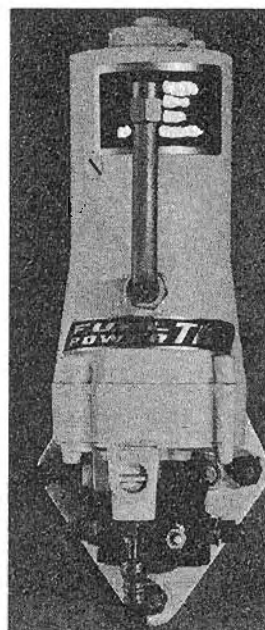

Figure 2. High Pressure Pump
- b. High Pressure Pump - Systems, which have a high pressure pump (Figure 2) require Type "A" transmission oil.